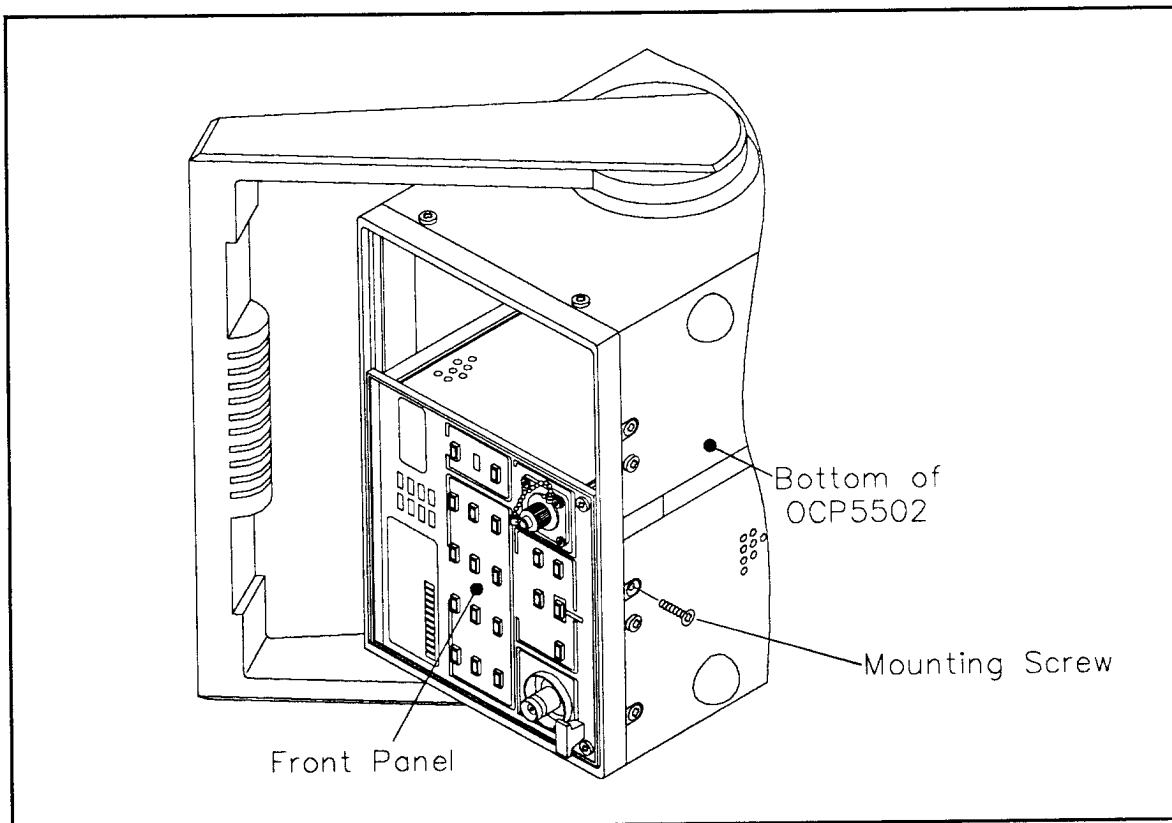

Figure 5-7. Location of the OCP5502 Mounting Screw.
1. Unscrew the mounting screw on the bottom of the power supply as shown in Figure 5-7.